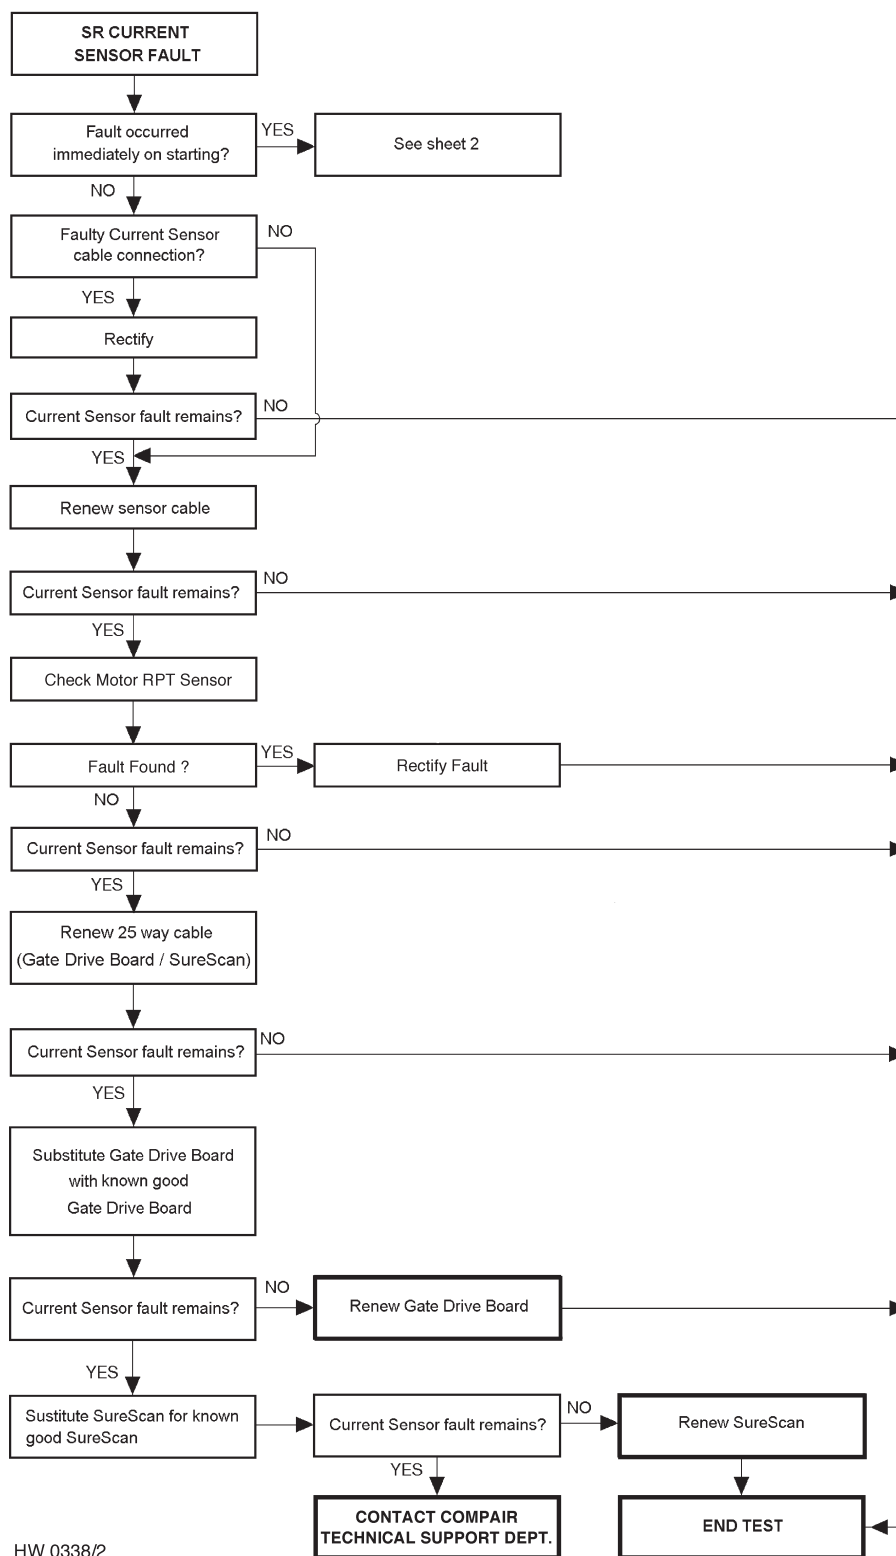

Fig 4.7 - SR Current Sensor Fault (1 of 2)
4.8.1 SR Current Sensor Fault (figs. 4.7 and 4.8)
- b) Refer to the flow chart in figs. 4.7 and 4.8 for the fault finding procedure.